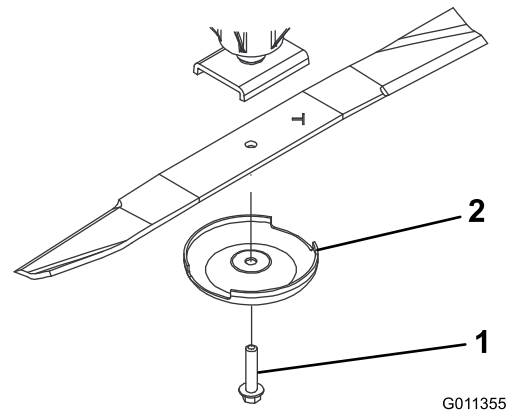

Figure 70
- Install the blade with the sail facing toward the cutting deck, with the anti-scalp cup and blade bolt (Figure 70).
- Grasp the end of the blade using a rag or thickly padded glove and remove the blade bolt, anti-scalp cup, and blade from the spindle shaft (Figure 70).